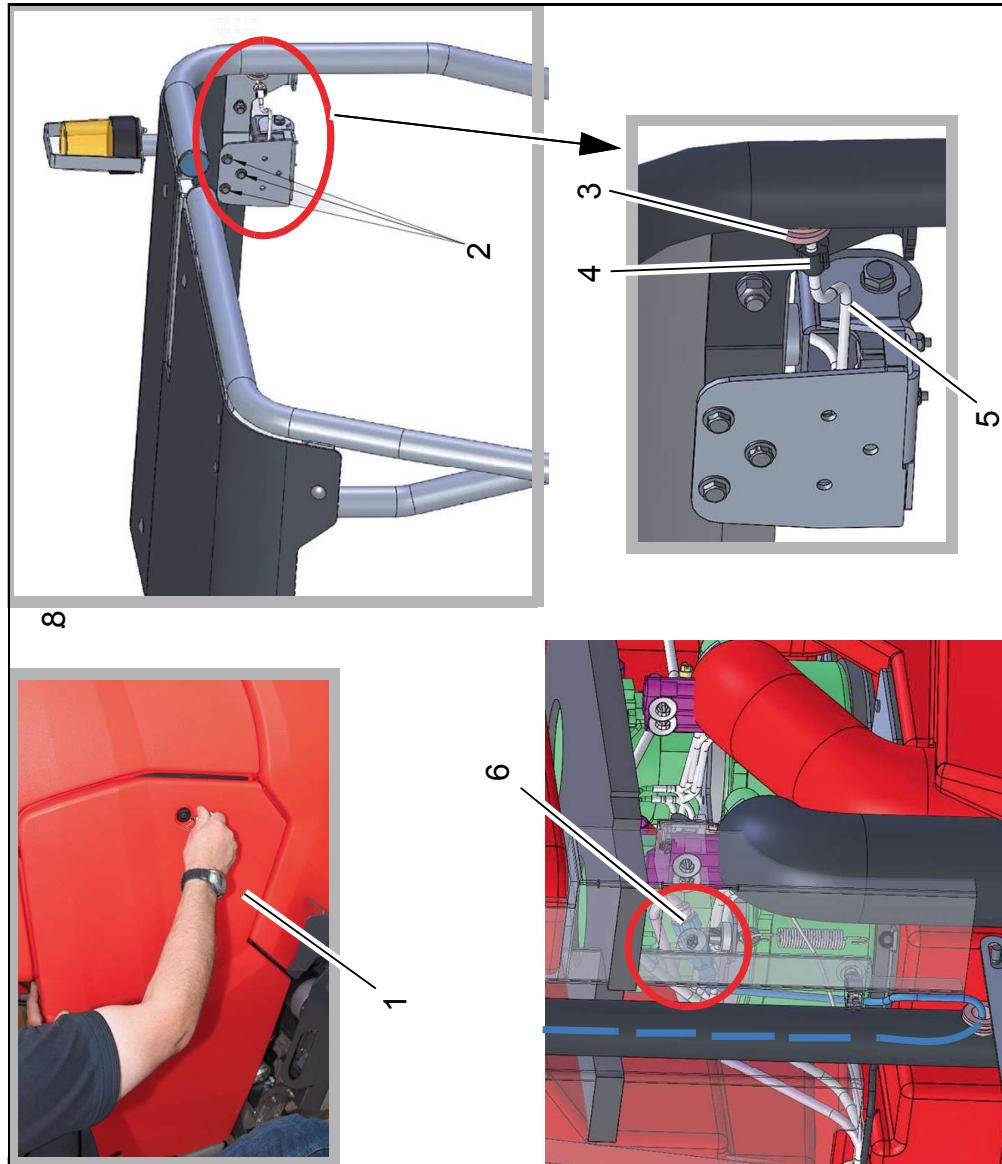

Fig. 2
1. Remove side paneling with provided wrench (Fig. 2/1).
2. The flashlight is fitted to the left rear overhead guard from the inside using the three M6x16 screws and the washers (Fig. 2/2). When tightening the screws it must be ensured that the flashlight is aligned in a vertical position.
3. Remove cable sleeve (Fig. 2/3) from tube. Lead plug of cable loom W 66 through the cable sleeve. Lead plug through opening of tube to lower opening in tube. Re-insert cable sleeve.
7. Connect X65 to plug of W 3 with the same name (Fig. 2/6). Secure plug to plate with cable ties.